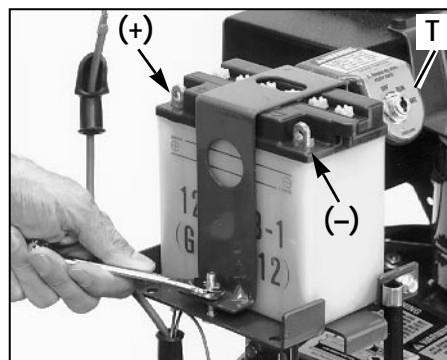

Figure 2-17: Attach hold-down clamp.
1. Reinstall the battery on the battery mounting base with the two cable mounting posts facing to the rear of the tiller. Be sure that the positive (+) post is on the left-side of the tiller and the negative (-) post is on the right-side (as viewed from rear of tiller). See Figure 2-17.
2. Reinstall the battery hold-down bracket over the battery with the ignition switch (T, Figure 2-17) toward the front of the unit. Attach the bracket to the mounting base using the two 1/4-20 x 1-1/4" carriage screws (insert screws up from beneath mounting base), 1/4" lock-washers and 1/4"-20 nuts removed previously. Tighten the nuts securely, but not so much as to bend the tabs on the hold-down bracket.